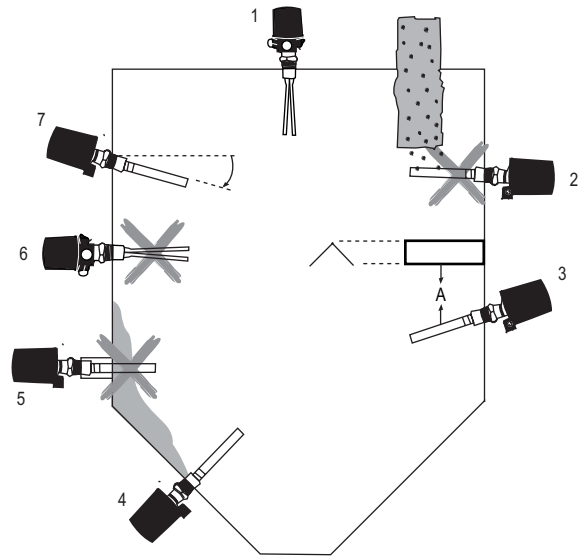

Figure 1: Installation guide
- The probe must be located away from tank inlets or chutes where material may fall on the probe during filling or emptying (Figure 1, No. 2). If this is not possible a baffle may be installed above the probe to protect it from falling material (Figure 1, No. 3). The baffle must be installed a minimum of 8" (200 cm), see dimension A in Figure 1, above the probe so that material will not become packed between the probe and the baffle.
- For mounting horizontally position the tines vertically, narrow edges up, so that material flows freely through them. The TFLS is designed so that if the conduit opening is pointed down the tines will be in the proper orientation. No. 6 in Figure 1 shows incorrect mounting, No. 7 correct mounting.
- For mounting horizontally with materials that may stick to the tines it is recommended to mount the probe angled down so that material slides off easily (Figure 1, No. 7).
- For top mounting the tines can be mounted in any position (Figure 1, No. 1).
- When using mounting nozzles, make sure the length is proper so that the tines extend far enough into the vessel to vibrate free of material buildup on the vessel wall. Also make sure the nozzle does not extend further than necessary into the vessel (Figure 1, No. 5).